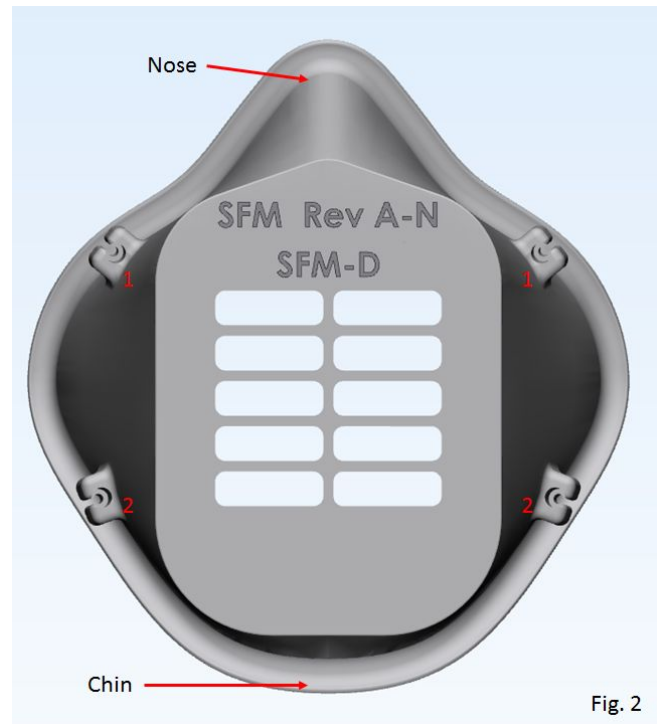

Fig. 2
4. Take one elastic strap (16"), create an overhand knot at each end of the strap, slide the end of the strap through the first set of attachment points (both marked #1 in Fig. 2), and make sure the knots are seated securely.
5. Take another elastic strap (16"), create an overhand knot at each end of the strap, slide the end of the strap through the second set of attachment points (both marked #2 in Fig. 2), and make sure the knots are seated securely.